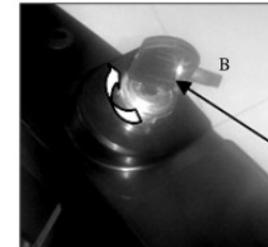

Fig. 2C B. key
c) For electric start: Insert the key, then the positive clockwise for electronic ignition operation. (Fig 2C )